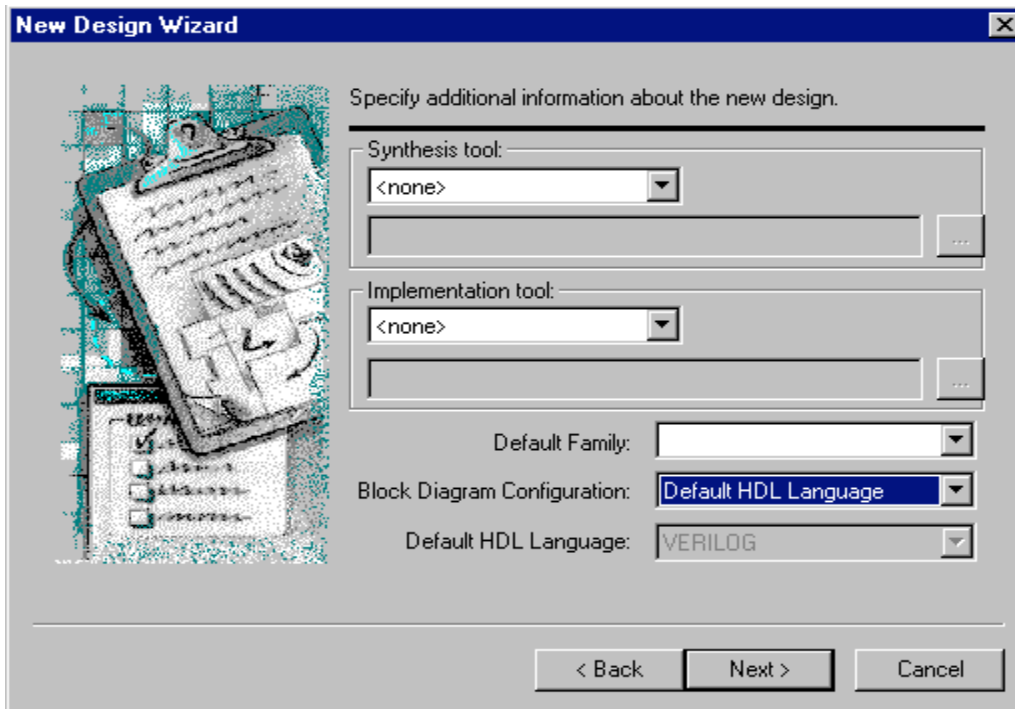

Figure 5
2. Find the “Block Diagram Configuration” field and select the “Default HDL Language” option. Leave the “Synthesis tool” field and the “Implementation tool” field blank since we will not be synthesizing yet. Your New Design Wizard window should look like Figure 5. If so, then click the Next button.